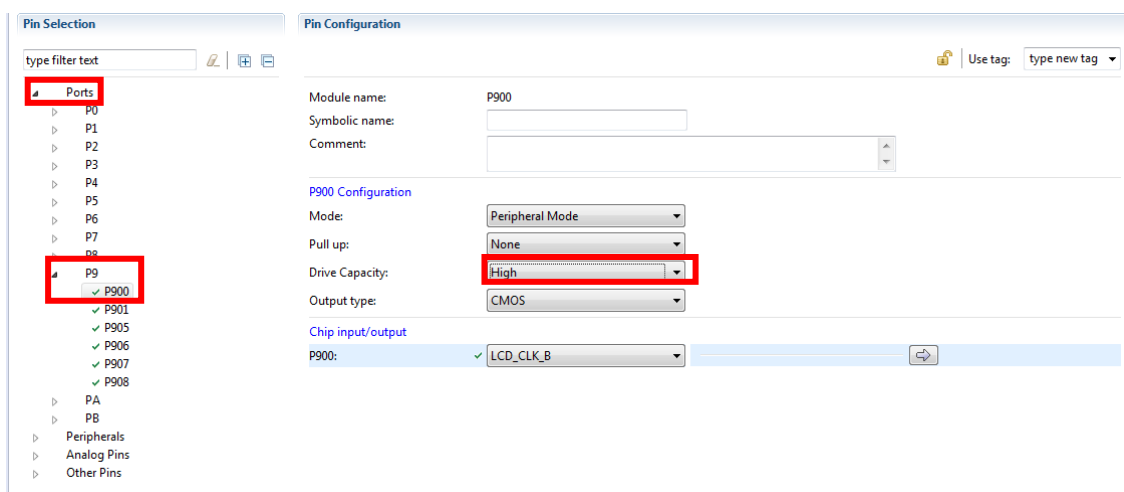

Figure 55 Example of Drive Capability configuration for GLCDC
40. Configure "Drive Capacity" into High for all pins related to GLCD_Controller_Pin_Option_B as shown in **Figure 55**. There are two methods for setting the Drive Capacities to High. You may pick either one (A or B):
- B. You can also set the pins by port. Below is an ordered list of the pins that the “Drive Capacity” needs to be set on “High”. You can access these ports by going to Ports > PX > PXYZ. Where X is the second digit of the port from the list, and PXYZ is the entire port. Once the port is selected, set the “Drive Capacity” to “High” as shown in **Figure 55**: